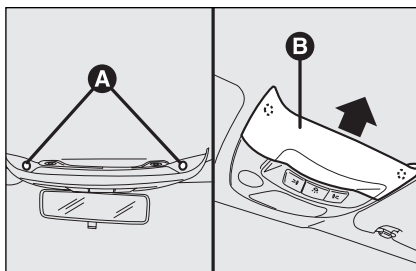

fig. 41
- press the catches **A**-fig. 41 and withdraw the plastic cover **B**;